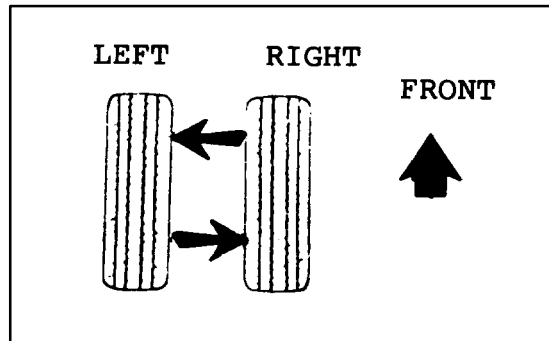

fig. 1
- A. Reposition the two front tires from right to left (see fig. 1).